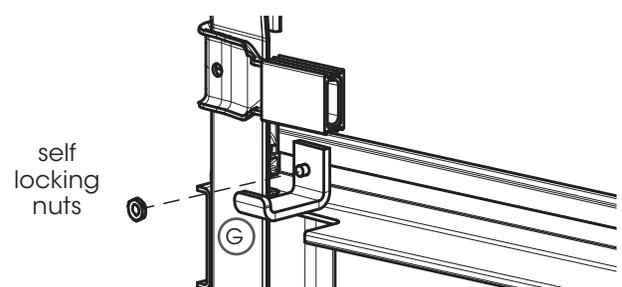

Fig: 2.5.4
- Fit bottom rail stops © using self locking nuts provided. Allow the door to rise and rest against the head stop (**Fig 2.5.4**)